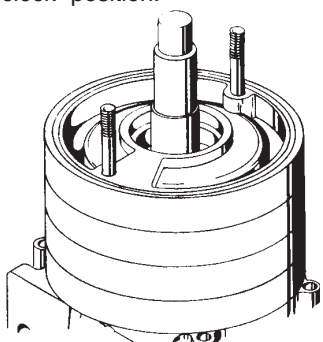

Figure 4-13
17. To complete the second stage assembly, install a right hand channel ring (#9) facing downward toward the impeller.(refer to figure 4-13) The small discharge opening should be in the "seven o'clock" position.